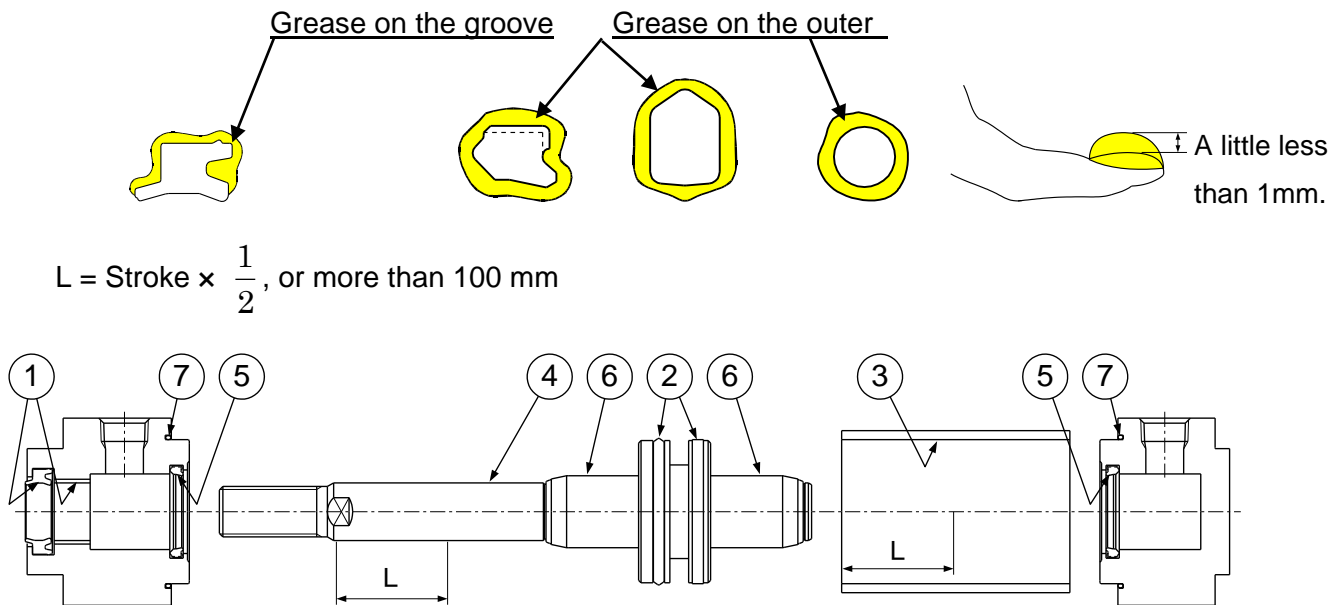

Fig. 7 Position for application of grease
Grease is applied to the locations shown in Fig. 7. The amount of grease per cylinder of 100 stroke is shown in attached table 7. Roughly, one scoop with a forefinger is approximately 3g.
1) Rod seal, Cushion seal (Fig.7, ① ⑤)
2) Piston seal (Fig. 7, ②)
3) Tube gasket (Fig. 7, ⑦)